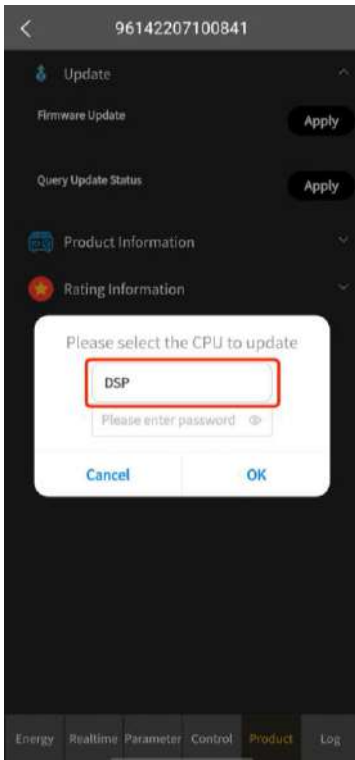

Figure 1
- (1) If the inverter does not upload the firmware, a warning dialog will pop up. Please contact the supplier to upload the firmware.
(2) For the first update, the update pop-up dialog is shown below.
(3) If not the first update, the latest updated CPU will be indicated in the column as shown in below figure.
5. Click the selection box marked in red in Figure 1 to list the drop-down box option. Select the CPU to be updated. In the example shown in Figure 2, DSP is selected.